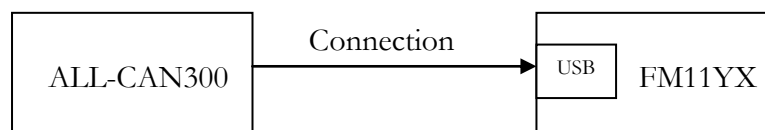

Figure 5 Connect adapter ALL-CAN300 to FM11YX
1. In car, connect ALL-CAN300 to CAN bus and to the FM11YX device (Figure 5), wait 10 seconds. Note, that car engine must be started.